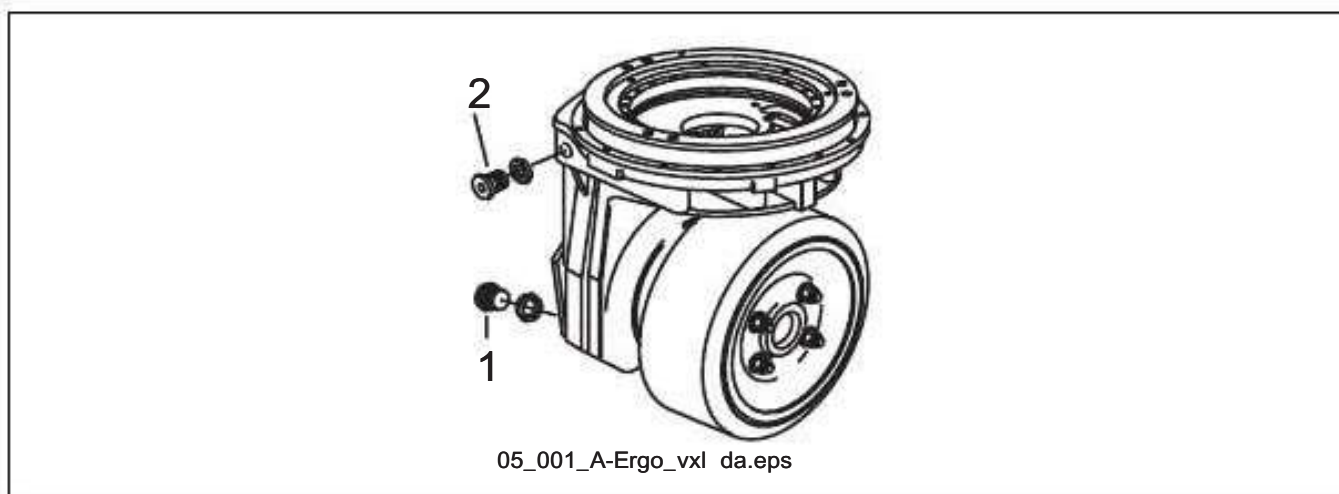

**Figure 5.1** Gearbox
1. If oil needs to be drained off this is done through the plug in the bottom of the gearbox, pos. 1 figure 5.1
2. Oil is filled either through the plug, pos. 2 figure 5.1, or by dismantling the motor.
3. The oil should lie at the same level as the hole by the screw, pos. 2 figure 5.1. Fill with oil until the oil starts to run out from the hole.
**Do not forget to fill the gearbox with oil before starting up. The oil can be filled before the drive motor is assembled on the gearbox. To ensure the oil level is correct: open the level plug, pos. 2 figure 5.1, and drain off any excess oil.**